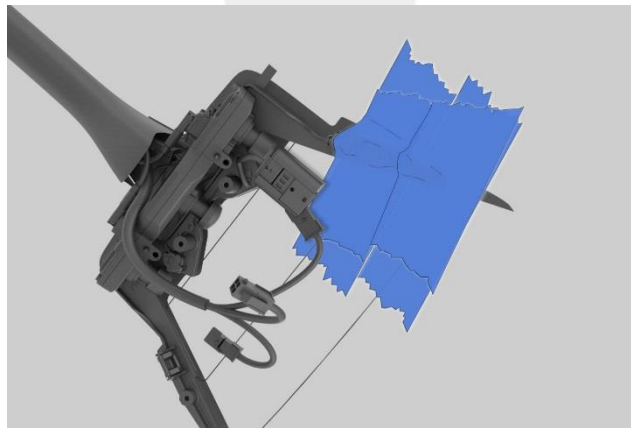

Figure 7 (RH shown, LH similar)
12. While pressing the triple camera windshield bracket against the windshield, apply multiple strips of masking tape over the top of the bracket to secure it to the windshield (Figure 7). Let the urethane dry for 2 hours.
13. After 2 hours have elapsed, remove the masking tape from the triple camera windshield bracket and windshield (Figure 7), and check that the bracket is flush with the windshield.